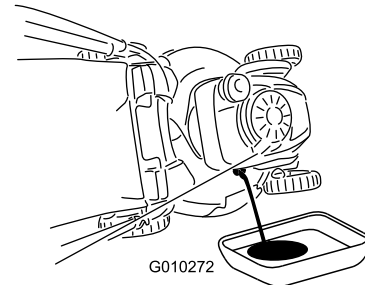

Figure 40
- Tip the machine onto its side, with the oil-fill tube down, to drain the used oil through the oil-fill tube into the oil-drain pan (Figure 40).